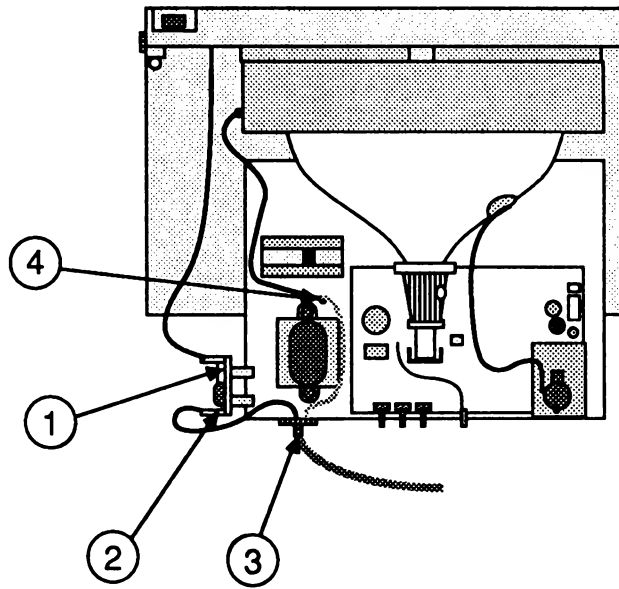

**FIGURE 3**
9. Locate the line filter board (Figure 3, #1), the AC IN connector (Figure 3, #2), and the monitor power cord (Figure 3, #3).
- a) If the power cord's green ground wire attaches directly to the monitor chassis (Figure 3, #4), the monitor is properly grounded. Proceed to step 19.